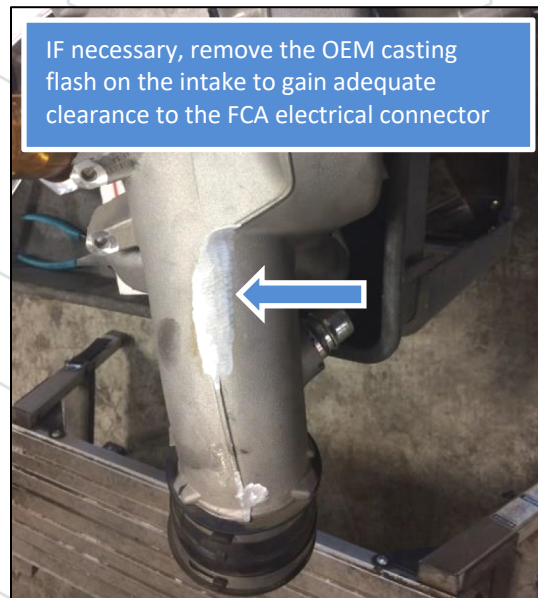

Figure 1: Clearance Location
- In rare cases on early model years, it may be necessary to remove the casting flash on the lower intake to increase the clearance to the Fuel Control Actuator (FCA) electrical connector on top of the CP4 fuel pump with the S&S Bypass Block installed (Figure 1). Confirm adequate clearance before final intake assembly.